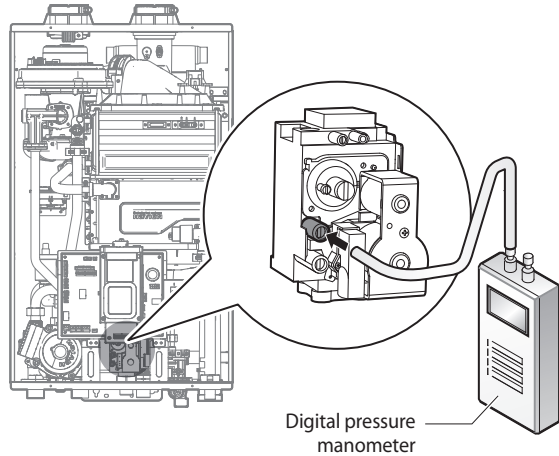

Figure 9. Connect Digital Pressure Monometer
- a. Open the offset pressure port by loosening the screw two turns as shown in Figure 9.